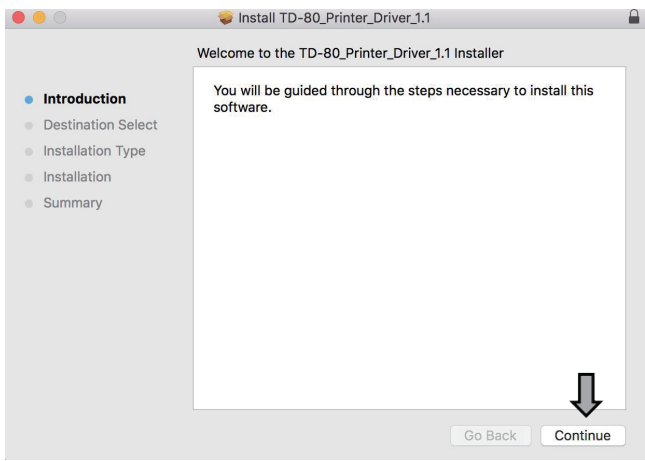

Fig.2
② Open the printer driver installation interface, click "Continue" (see Figure 2).